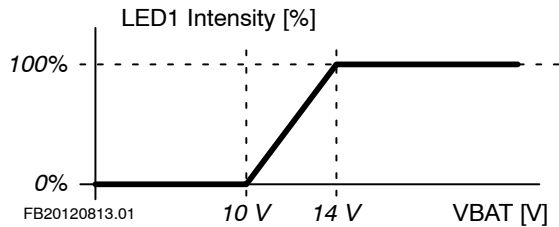

Figure 5. LED1 Intensity vs. Battery Voltage
- Battery voltage exceeding 14 V is indicated by LED1 full intensity (Figure 5).